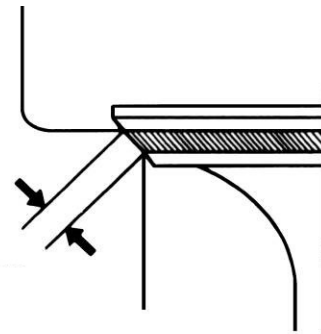

Figure 4-25: Valve Face Measurement
- See Figure 4-25. for valve seat width examples.